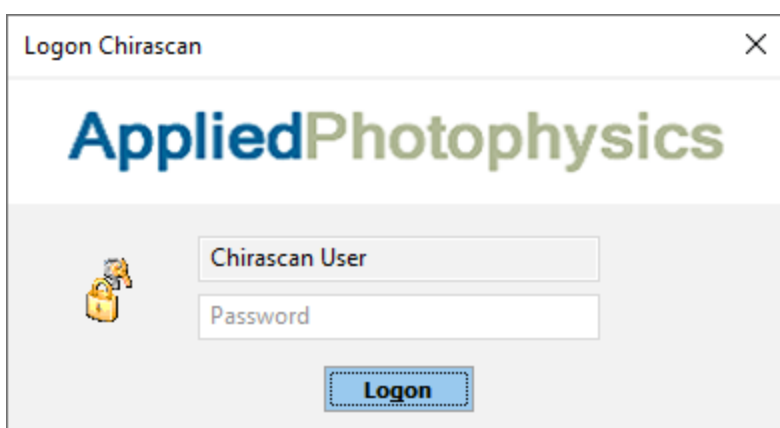

Figure 104: Logon window for a Chirascan program
- Start any of the programs of the Chirascan software (Figure 104), including Chirascan Control^[66], Chirascan Viewer^[97] and Chirascan Autosampler^[153].